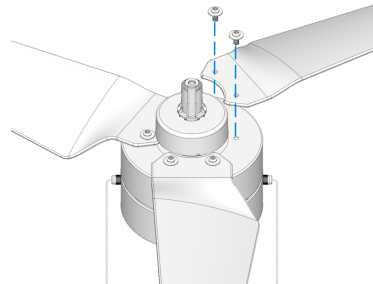

Fig. 1.2
1.2 Align two blade holes with the corresponding screw holes on the motor head, and secure the blades using the blade screws. Perform the same steps for the remaining blades, as illustrated in Fig. 1.2.